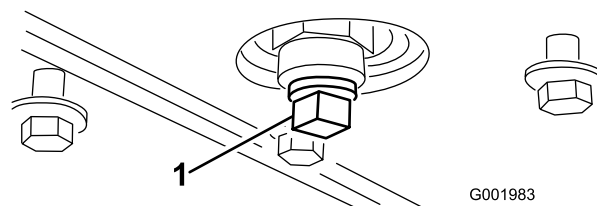

Figure 46
5. Remove the drain plug (Figure 46).